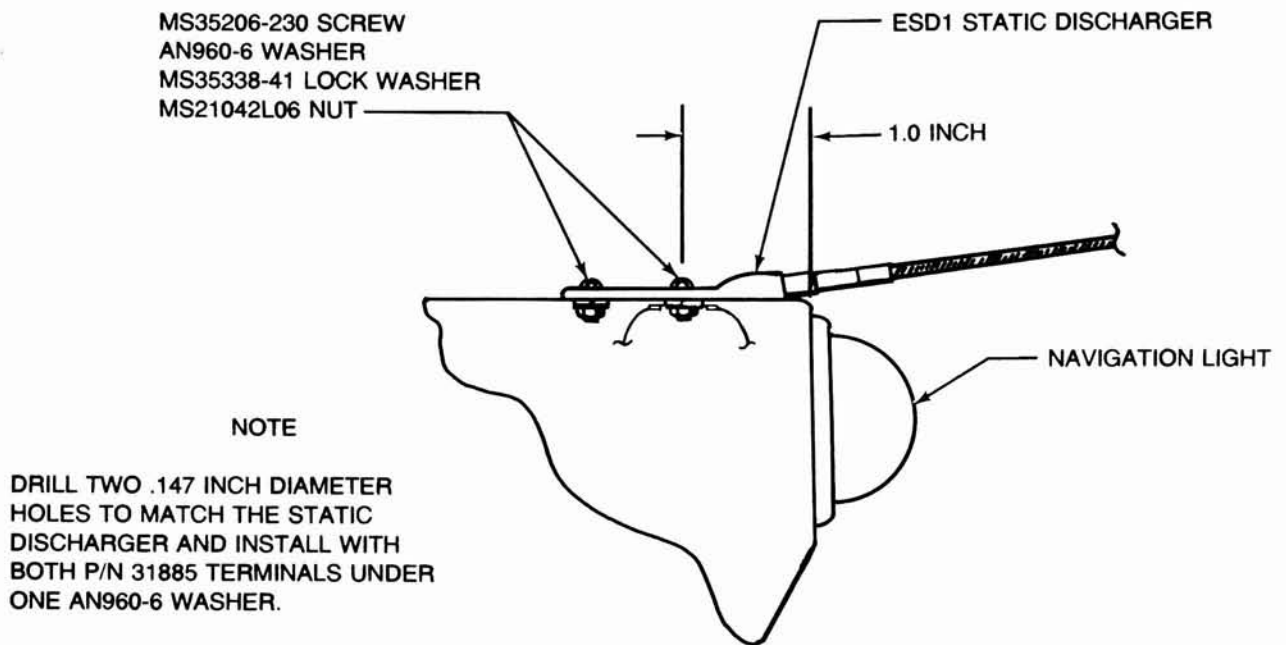

Figure 5.
26. Position the P/N ESD1 static discharger on the fairing as shown in Figure 5 and drill two .147 inch diameter holes in the fairing to match the static discharger.
28. Install the ESD1 static discharger on the fairing as shown in Figure 5 and reinstall the navigation light in the fairing.